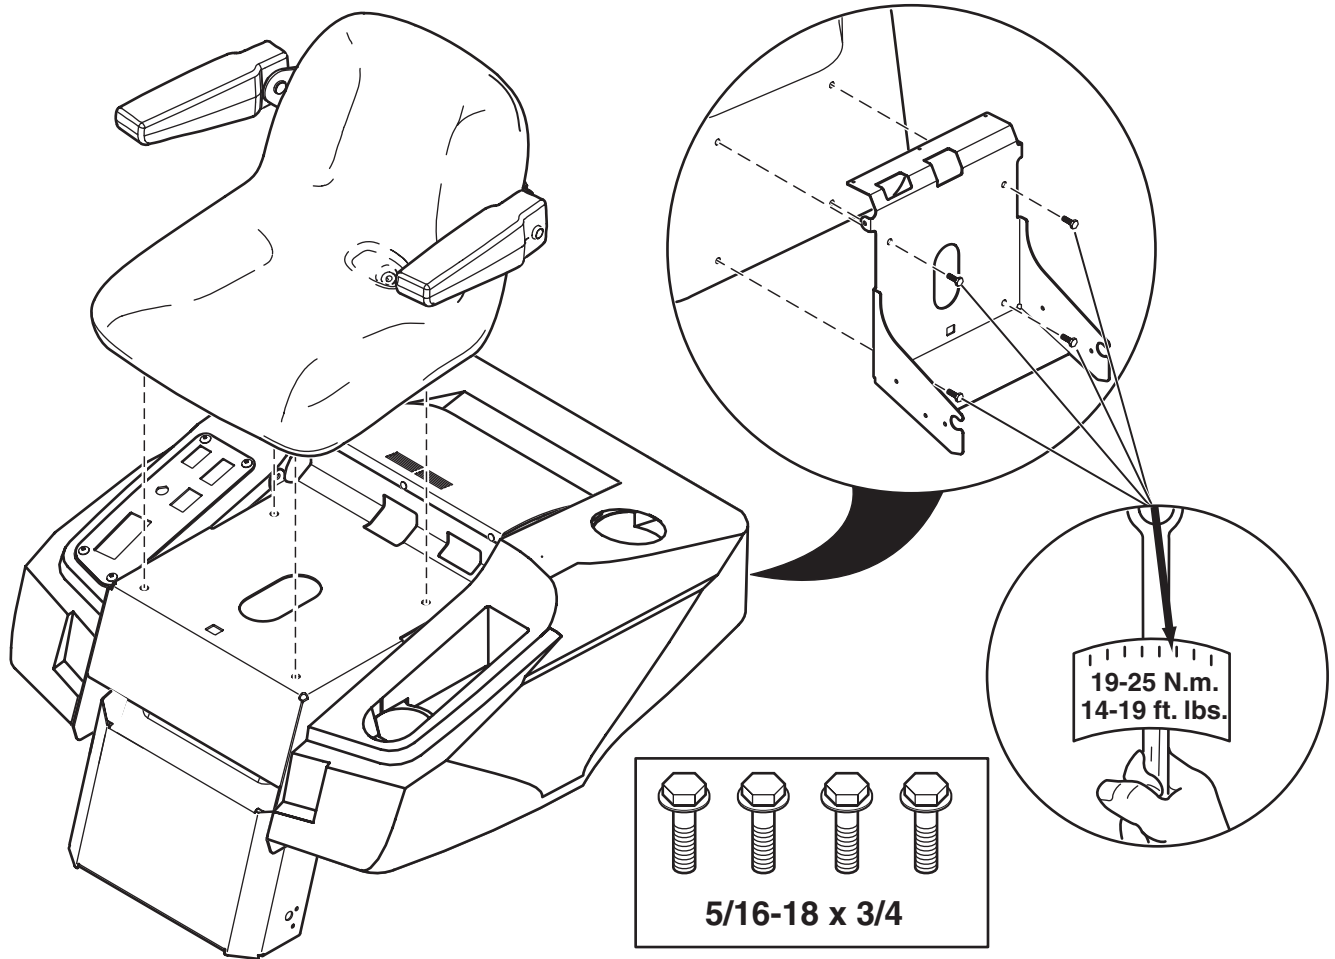

Figure 5. Installing the seat
3. Secure the seat to the seat base with four 5/16-18 x 3/4" bolts. Torque to 14-19 ft. lbs. (19-25 N.m.) See Figure 5.